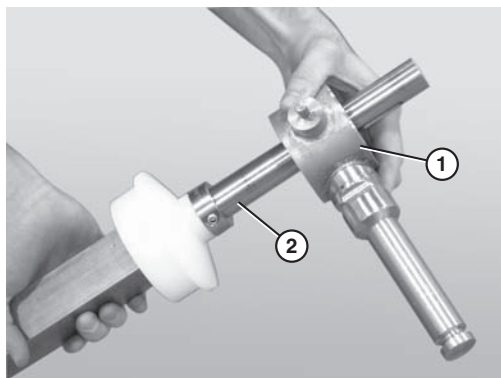

Figure 84
7. Slide the second bearing shaft assembly, or the motor mount bracket (**Figure 84, item 1**), onto the longer end of the drive spindle (**Figure 84, item 2**).